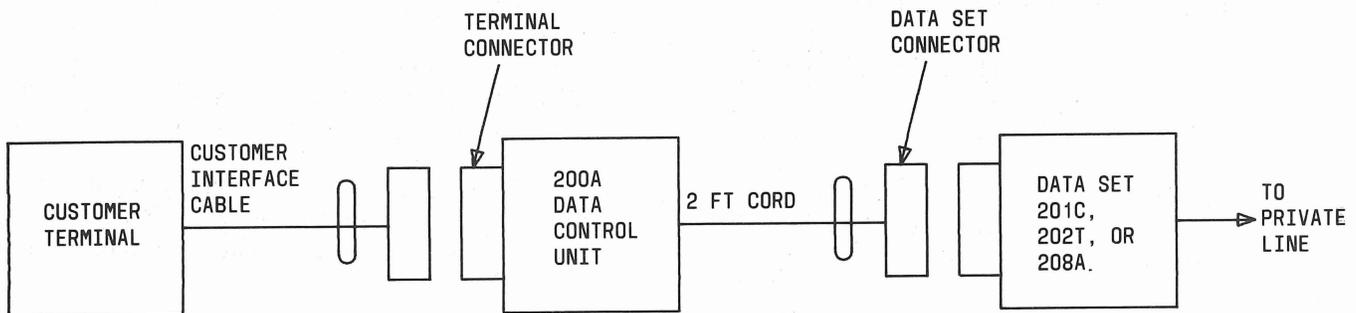

Fig. 2—200A Data Control Unit
3.02 Plug the customer interface connector cord into the connector marked TERMINAL on the 200A DCU (Fig. 2). The customer interface